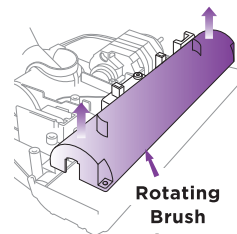

Fig. 22
- 5 Remove the rotating brush cover. (Fig. 22)